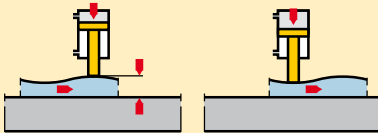

**Figure 6**
- The workpiece should only be exposed to a clamping force if it is appropriately supported by a solid bearing point, as illustrated in Figure 6.